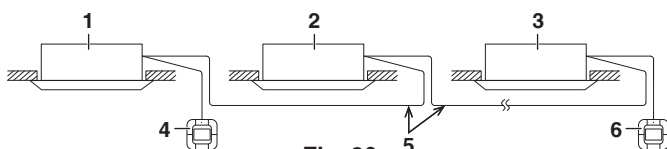

Fig. 30
- When using the group control and the 2 remote controllers control at the same time, connect the remote controller 2 (Sub) to the indoor unit at the end of the crossover wiring (the largest No.). (Refer to Fig. 30)